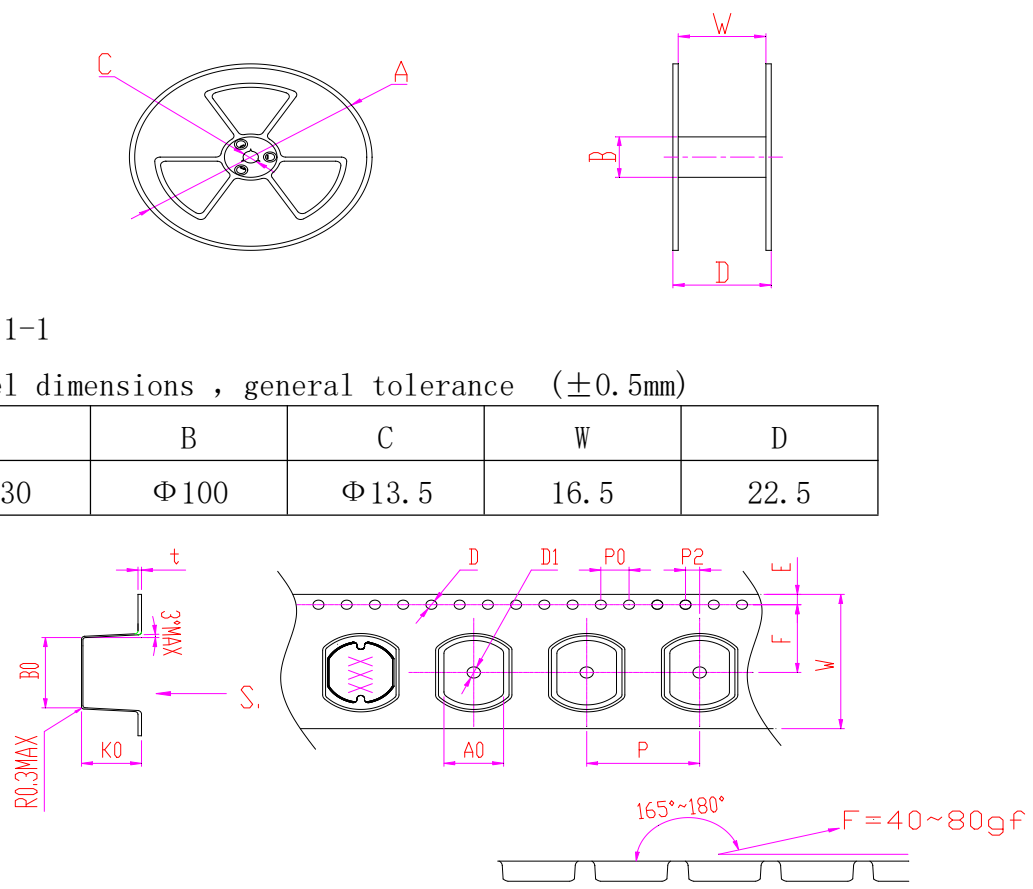

Fig .1-1
1. Packing quantity of each reel: 1000PCS/R (18-30PCS not packed at the beginning and end), affixed with the correct label, and then placed into a plastic bag (plastic bag size: 360x460mm), with a package of desiccant, sealing, reel and carrying tape dimensions. Fig. 1-1